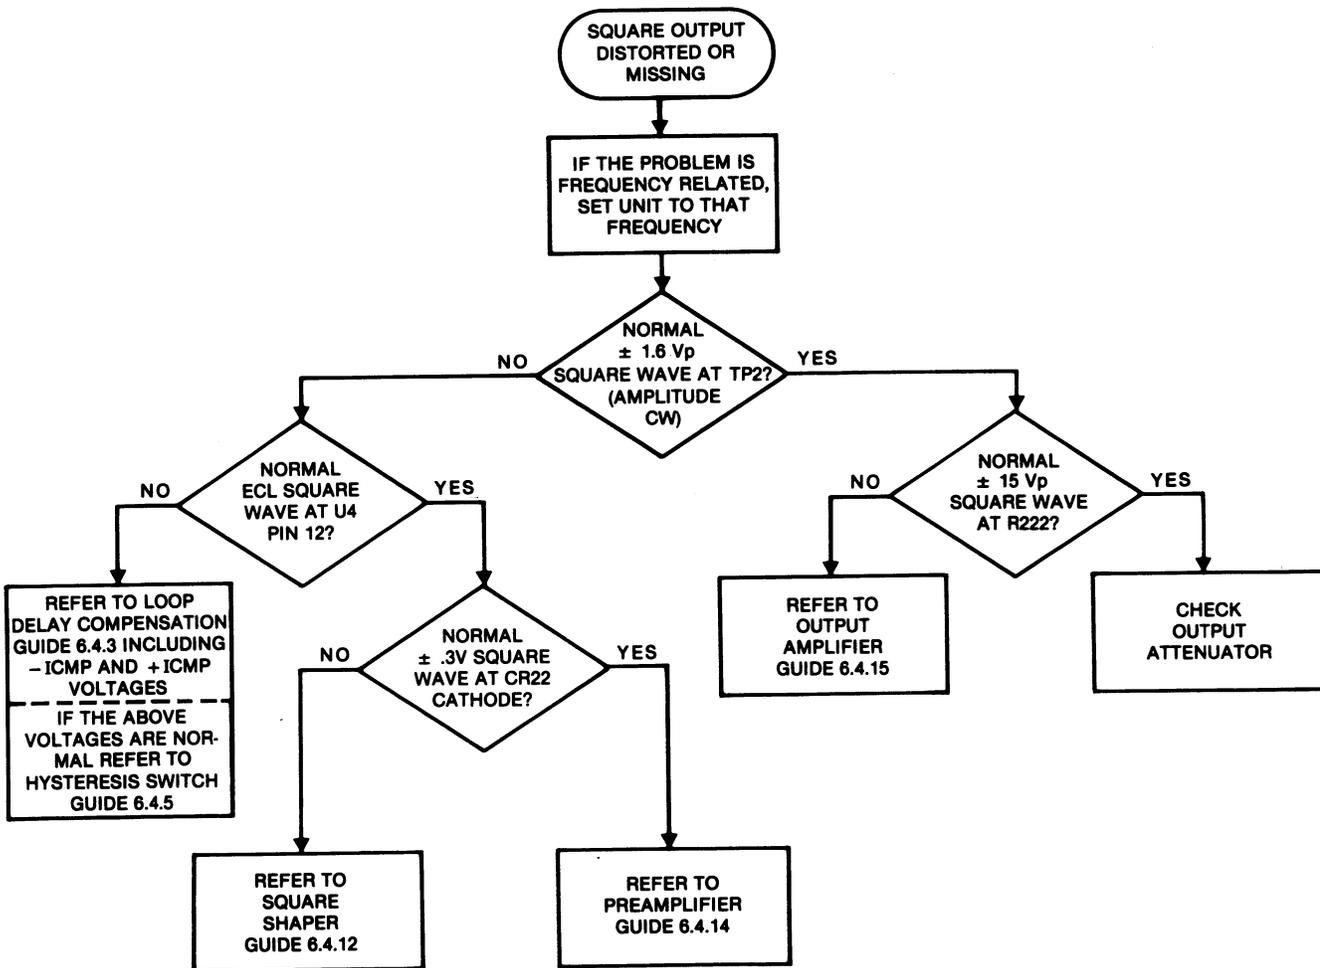

Figure 6-2. Square Output Troubleshooting
4. If none of the above conditions apply, refer to figure 6-2.